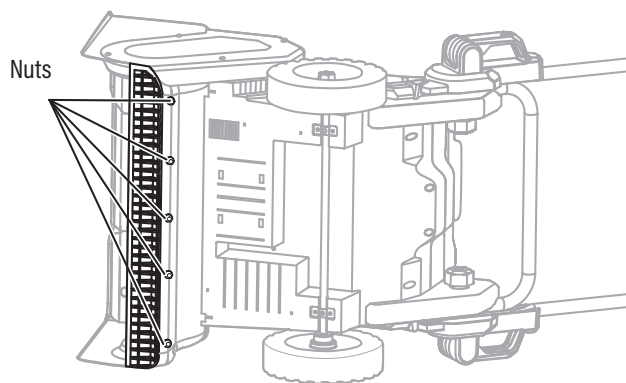

Fig.1
1. Turn the snow blower on its side to work on the tool (Fig. 1).